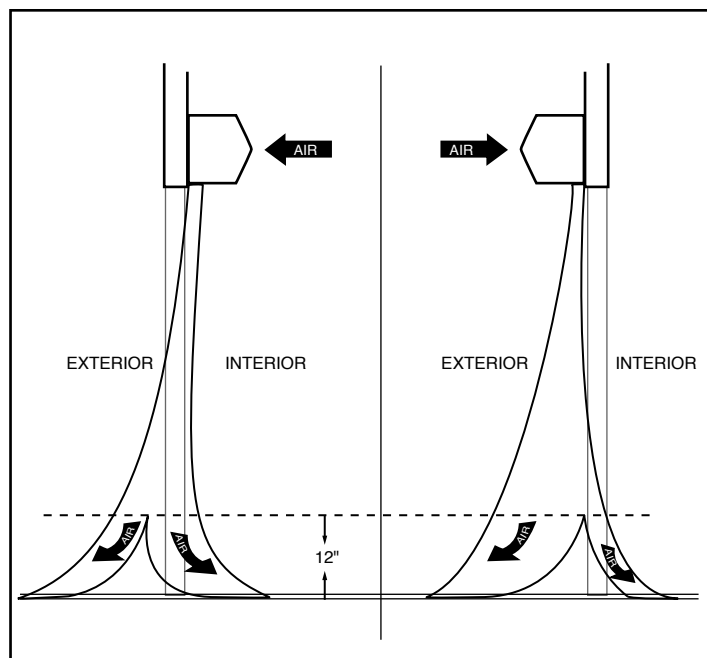

FIGURE 10
2. Find the air stream split location. Hold a handkerchief by its corners, approximately 12" above the floor. Gently move the handkerchief back and forth in the doorway. Make sure the air is being directed to both the inside and the outside. **See Figure 10.** The split location is indicated where the handkerchief is vertical with minimal or no fluttering.